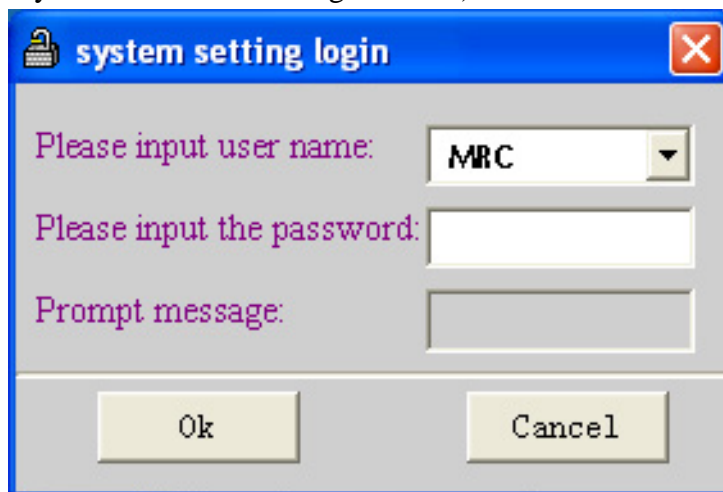
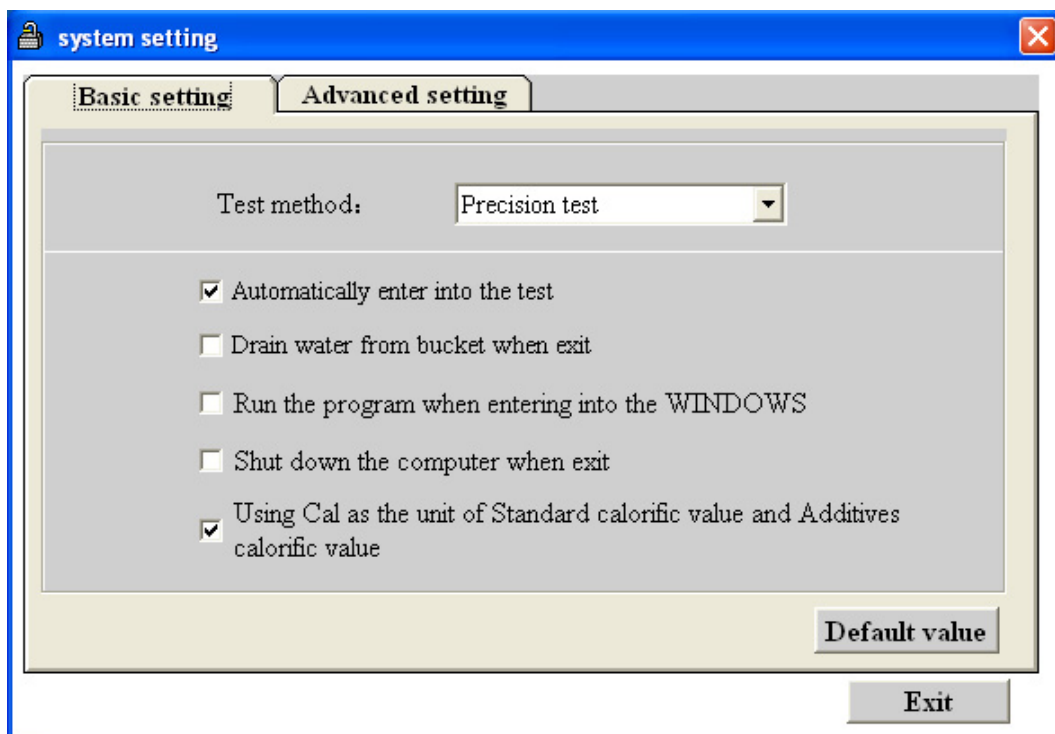
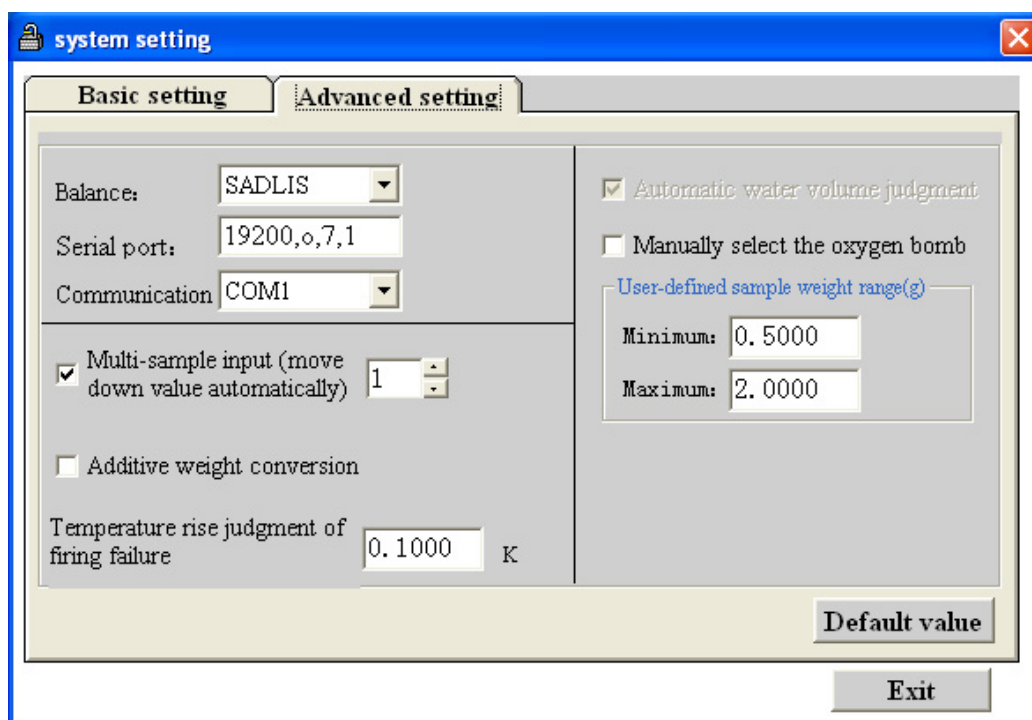

Fig.4-3
Fig.4-4
Fig.4-5
1. **System setting** (shown as Fig.4-3 for Setting Login Window, Fig.4-4 System Basic Setting Window and Fig.4-5 System Advanced Setting Window).